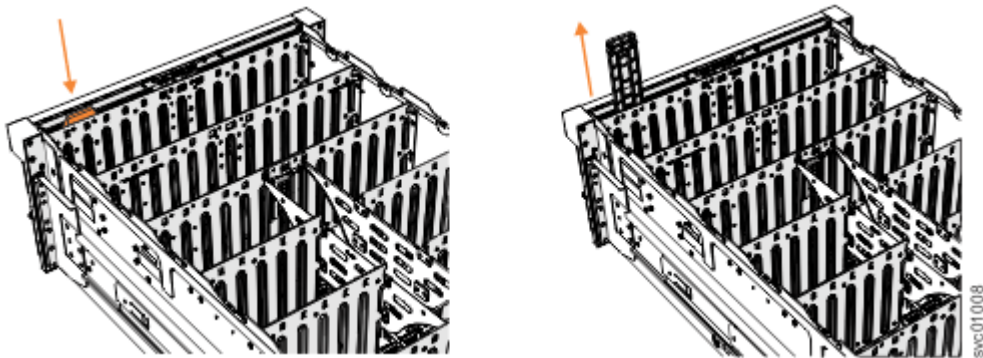

Figure 125. Removing the display panel assembly
3. Press the release tab at the top of the display panel assembly, as shown in Figure 125 on page 181.